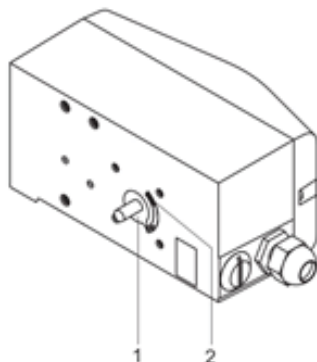

Figure 1
The shaft on the bottom the positioner must operate within the specified area. Looking at figure 1 below, the arrow (1) on the positioner shaft (and the lever) must move through the area marked by the arrows (2).
- Based on the mounting position as well as the home position and rotational direction of the actuator, determine in which position the feedback shaft (1) for the positioner must be preadjusted and in which position the adapter (2) must be placed to enable the positioner to travel with in the proper range (the arrow on the rear of the device must travel within the admissible range, see Fig. 1).
- Place the adapter in the proper position on the feedback shaft and fasten with set screws (3). One of the set screws must be locked in place on the flat side of the feedback shaft.